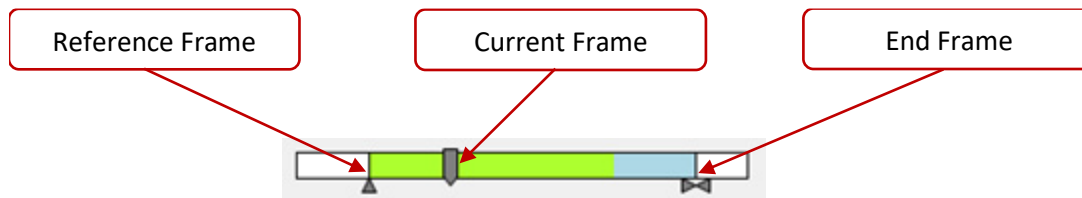

Figure 16: The Project Seeker
- ❖ **Project Seeker** (Figure 16) – Seeks in the recorded data. Changing the position of the current frame updates the image(s) displayed in the camera view(s) and causes the highlighting of measured values in graphs. The positions of the reference frame and the end frame are shown as vertical lines with arrow pointers. The green range shows the amount of computed data. The yellow range (not displayed in the picture) means that some of the frames were not computed although they are written to disk. The light-blue range, which may be overlapping with the green range, also specifies the range of frames for recomputation, the recording of video files (available through the corresponding control in the **camera view controls** of the **scene window**, see 3.1) and vibrography analysis (see 6).